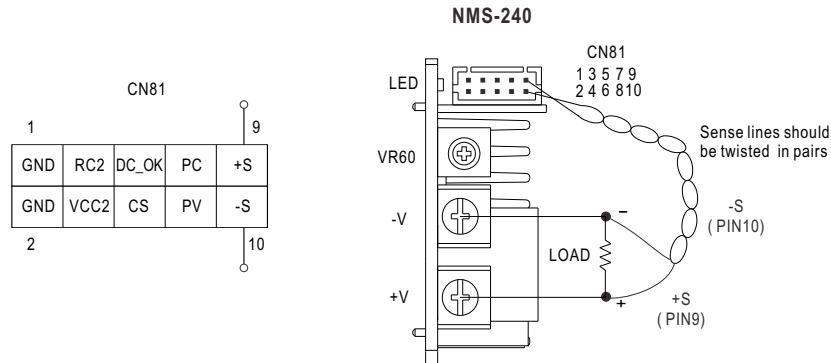

Figure 5-7 Connection diagram when using remote sense function
- ◎ When using this function, the sensing wires should either be twisted or shielded to prevent external noise interference (refer to Figure 5-7).